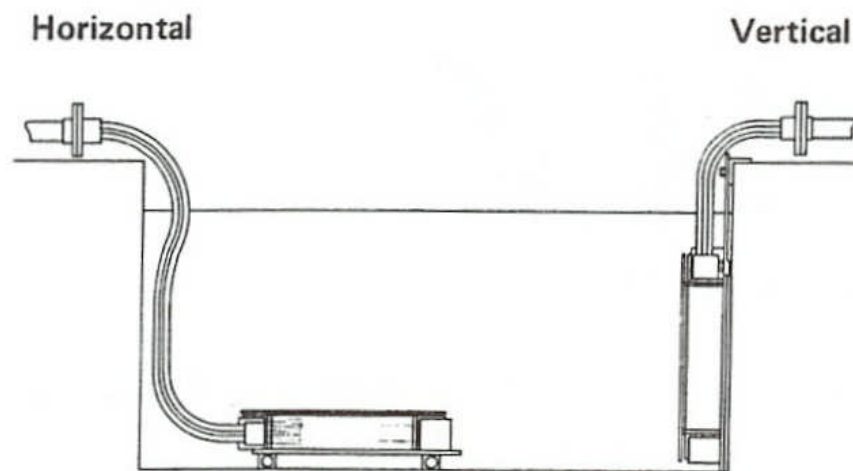

Figure 2: Position of Nautilus in tank
- The Nautilus is specially designed for use in either a vertical or horizontal position (see figure 2).